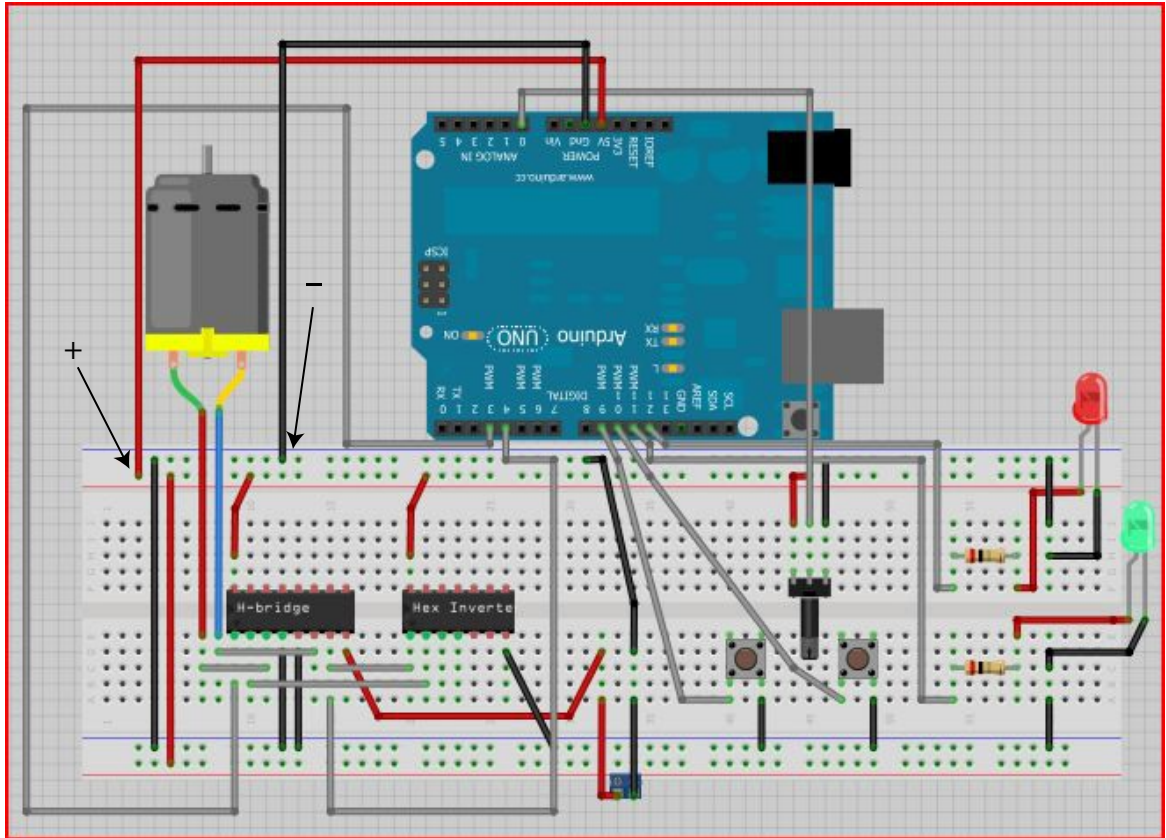

Figure 15-20. Attach power (+5V) and ground to the Arduino
29. Connect GND to the blue side of the power strip of the breadboard by inserting a jumper wire into a free hole nearest the blue line and the other end into GND on the Arduino. Figure 15-20 illustrates this process.